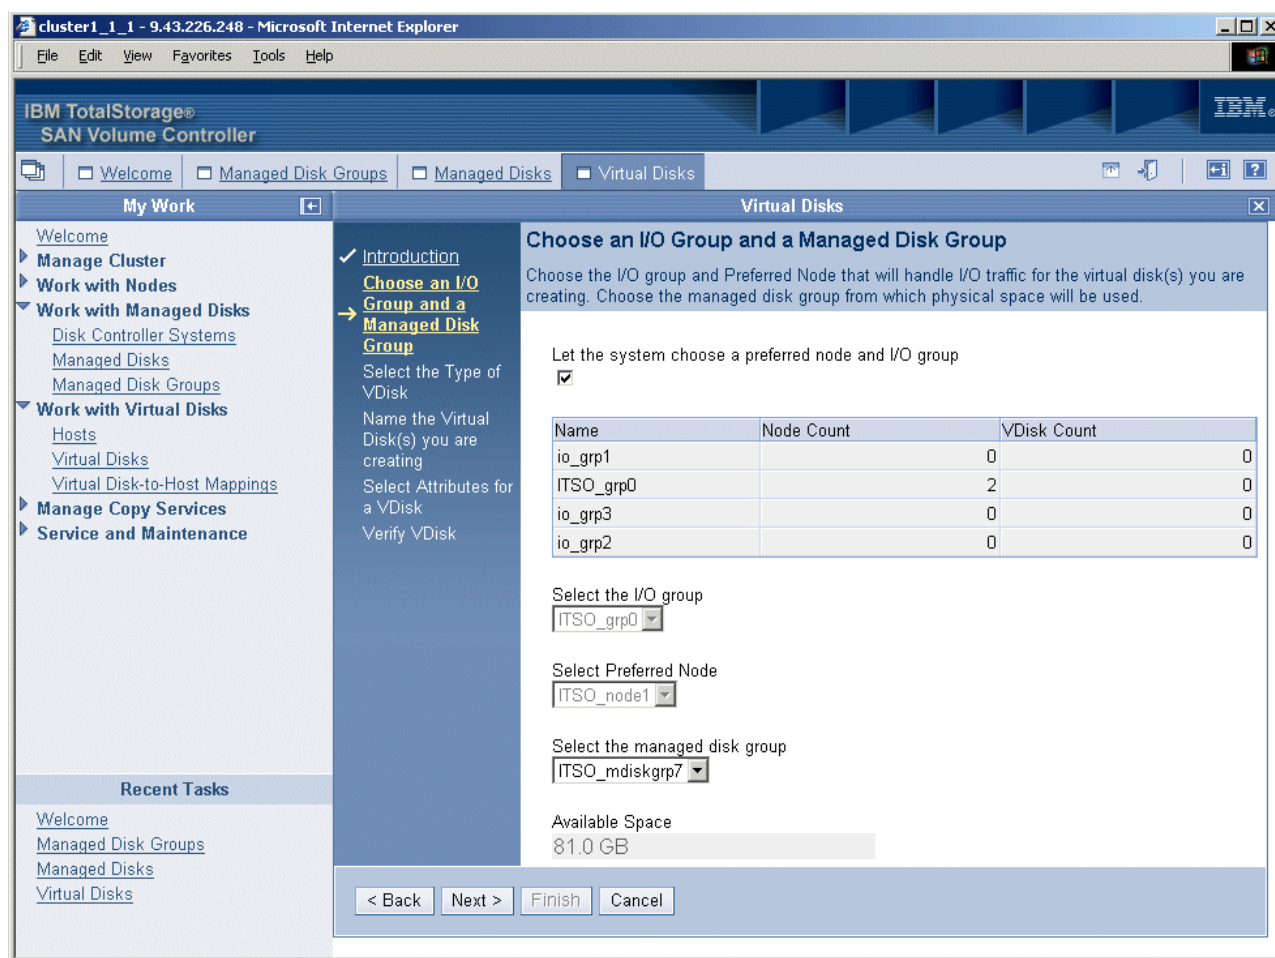

Figure 6-33 Choosing an I/O group and a MDG panel
5. On the Choose an I/O Group and a Managed Disk Group panel (Figure 6-33), follow these steps: